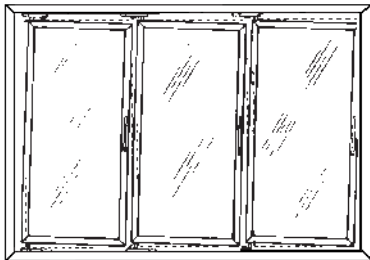

Figure 9
- After installation, if door appears to sag, refer to Figure 9 , Ardco's adjustable hinging features will allow this situation to be corrected.
5. To correct the problem in Figure 9, shift the top mounting plates to the left and the bottom mounting plates to the right.